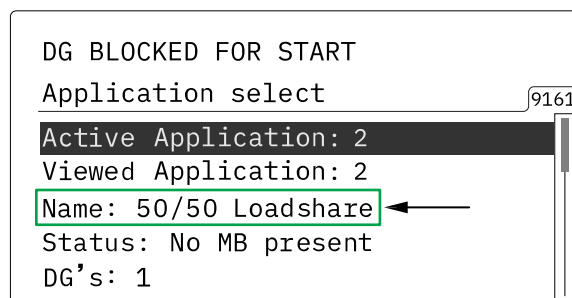

Figure 80. 50/50 Loadshare
11. Verify that **Name** is displayed as **50/50 Loadshare** (Figure 80).